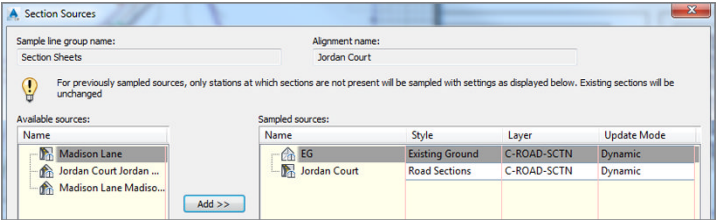

FIGURE 10.10 Sampling additional sources using the *Section Sources* dialog box
5. Verify that the *Section Sources* dialog box looks like Figure 10.10, and then click *OK*.